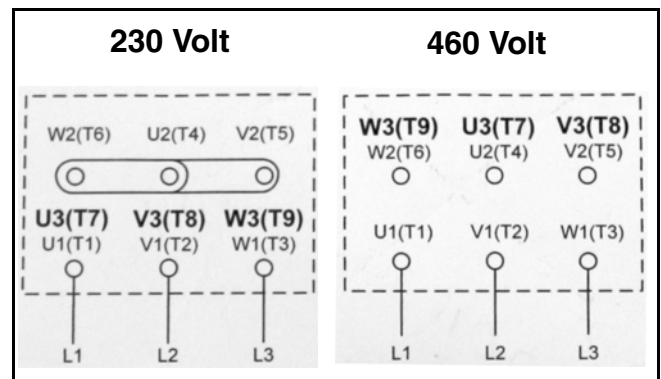

Figure 9
- Determine wiring configuration (**Figure 9**).